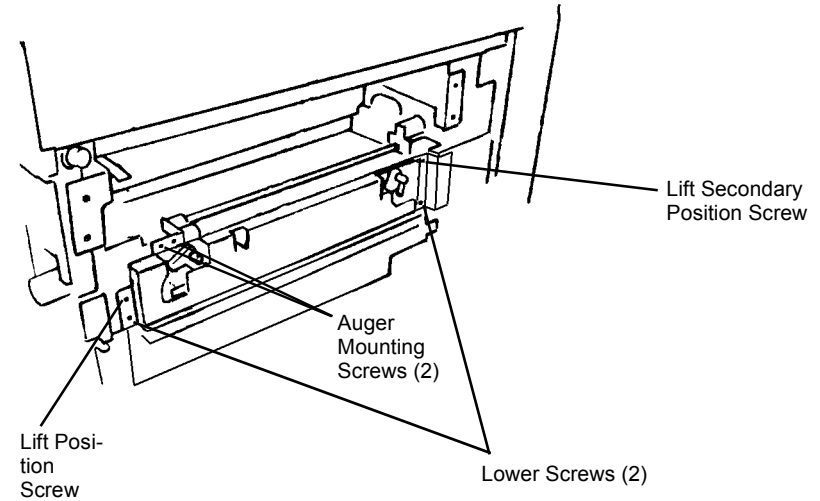

Figure 2 Removing Right Xerographic Lift
12. Remove Right Xerographic Lift (Figure 2).
- a. Remove Auger Mounting Screws (2).
- d. Remove Lower Screws (2).